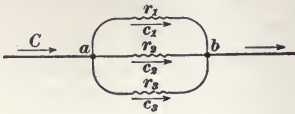

FIG. 52.
72. Fig. 52 represents a divided circuit of three branches. Let r_1 , r_2 , and r_3 be the separate resistances of those branches, respectively. Then, $\frac{1}{r_1}$, $\frac{1}{r_2}$, and $\frac{1}{r_3}$
EXAMPLE.—In Fig. 52, given $r_1 = 5$ ohms; $r_2 = 10$ ohms; and $r_3 = 20$ ohms; find their joint resistance from a to b .
For example, if the currents in the three branches, Fig. 52, are 16, 8, and 4 amperes, respectively, and the joint resistance from a to b is $2\frac{6}{7}$ ohms, then the difference of potential between a and b = $(16 + 8 + 4) \times 2\frac{6}{7} = 28 \times 2\frac{6}{7} = 80$ volts.
For example, in Fig. 52, assume that the separate resistances of the three branches are 5, 10, and 20 ohms, respectively, and that the difference of potential between *a* and *b* is 80 volts. Then, the current in the first branch is $\frac{80}{5} = 16$ amperes; in the second, $\frac{80}{10} = 8$ amperes; and in the third, $\frac{80}{20} = 4$ amperes.
For example, in Fig. 52, assume the difference of potential between *a* and *b* to be 80 volts and the currents in the separate branches to be 16, 8, and 4 amperes, respectively; then, the resistance of the first branch is $\frac{80}{16} = 5$ ohms; of the second, $\frac{80}{8} = 10$ ohms; and of the third, $\frac{80}{4} = 20$ ohms.